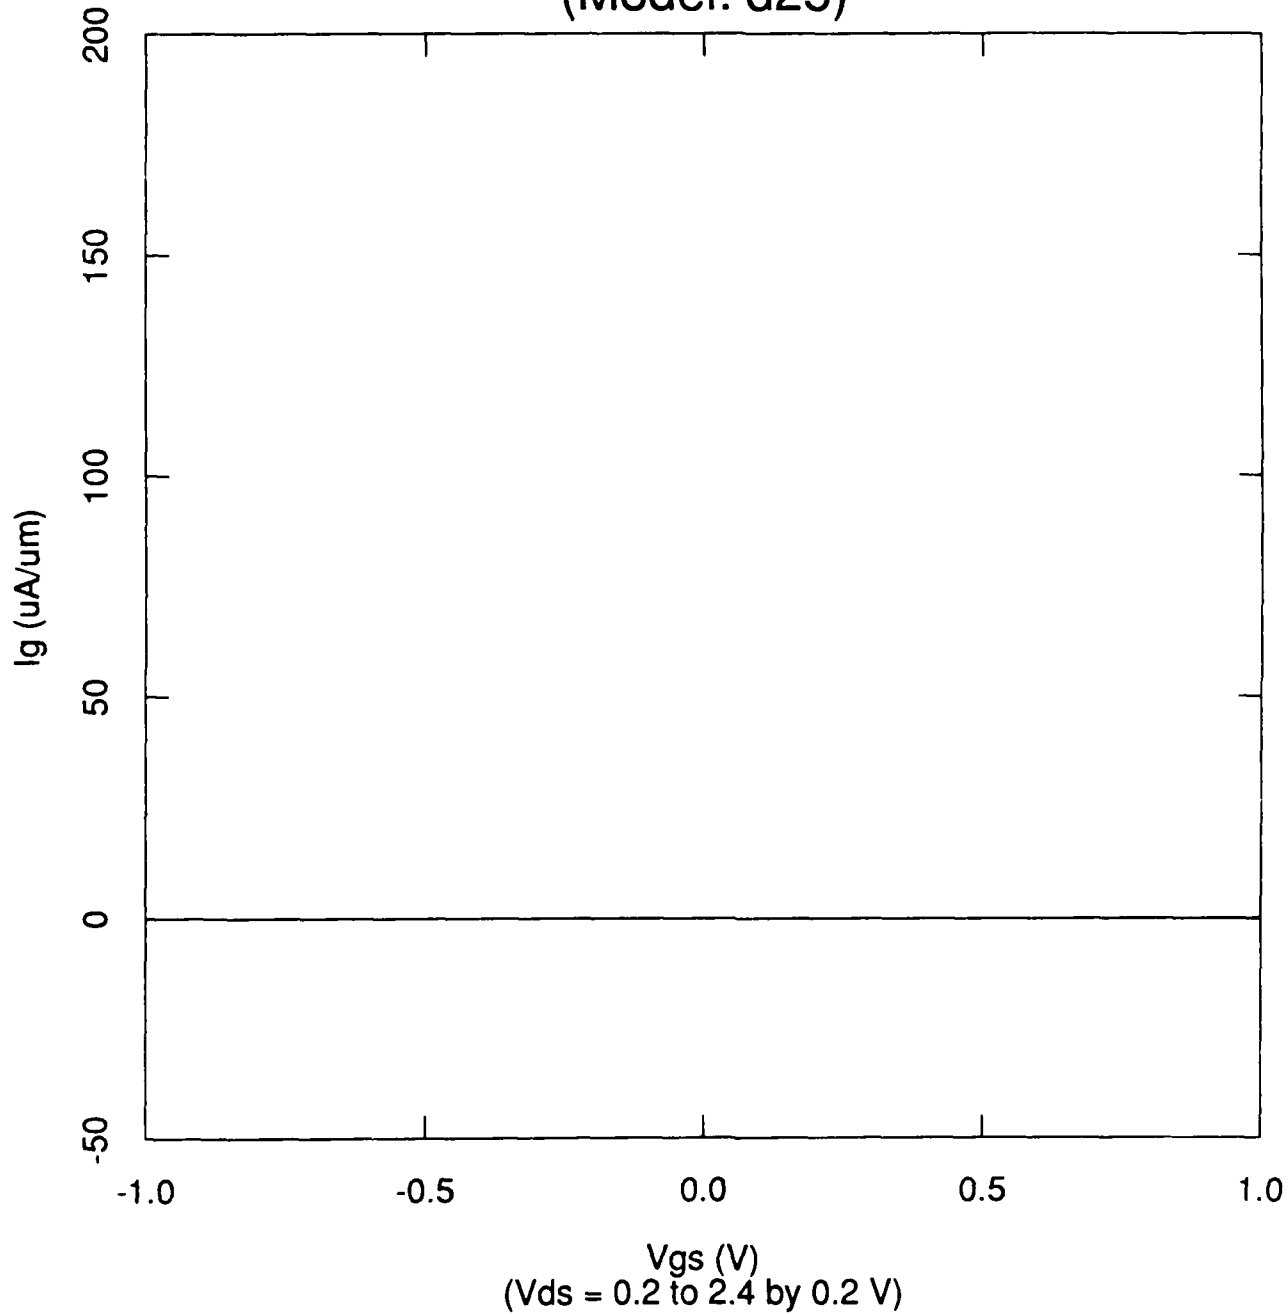

Figure 4. I_g vs. V_{gs} (V_{ds} stepped) for d25 DHFET Simulation at 25C.
- Figure 4. I_g vs. V_{gs} (V_{ds} stepped) for d25 DHFET Simulation at 25C.